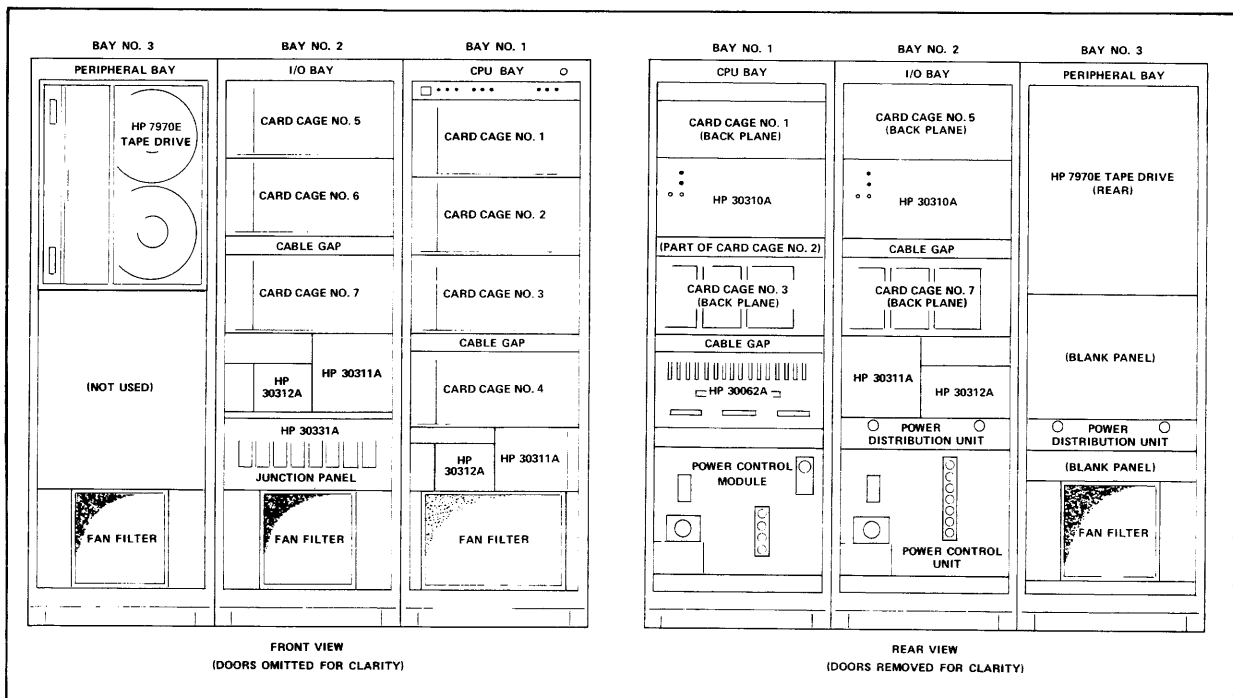

Figure 2-1. HP 3000 Series II Model 9 Equipment Bays
- three Equipment Bays, containing the main-frame card cages and power supplies (see figure 2-1);
2-12. ELECTRICAL. Looking at the equipment bays from the rear (see figures 2-1 and 2-2), note that a PCM is at the bottom of the left-most HP 29402B Cabinet. The PCU is located at the bottom of the next equipment bay to the right. Finally, note there is a PDU in each equipment bay other than the first bay. In the following instructions and in table 2-1, the cabinets are numbered 1 through 3, or 1 through 2, from left-to-right as seen from the rear. If the system you are installing is a special order, there may be more cabinets that would be numbered greater than 3, from left-to-right, for reference in table 2-1.